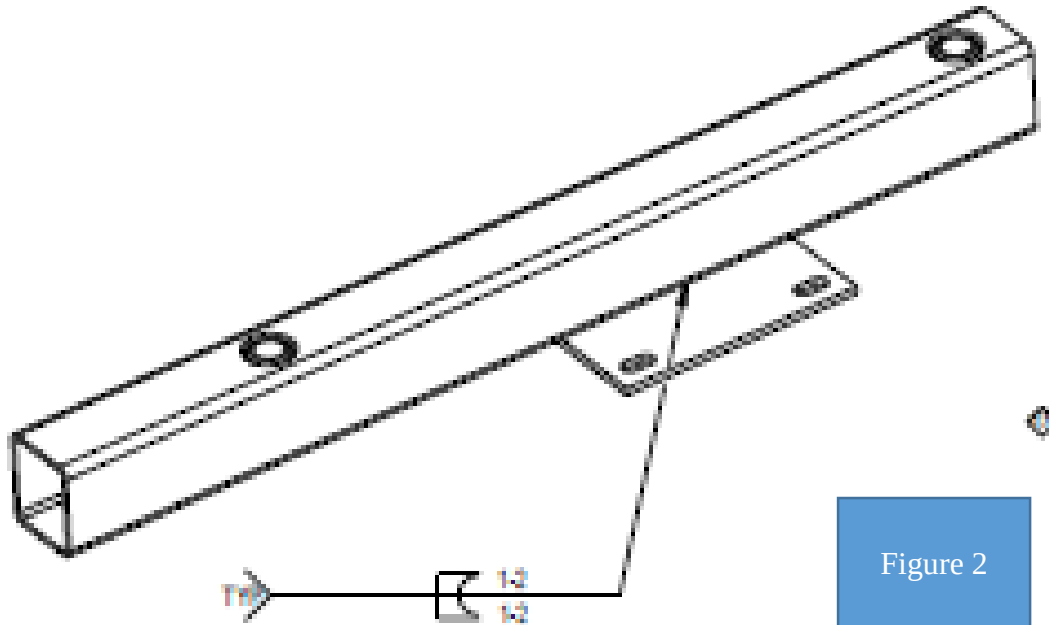

Figure 2
6. If the welds are not cracked, broken & the bracket is in the correct position then only one weld needs to be added (see figure 2, step 25).